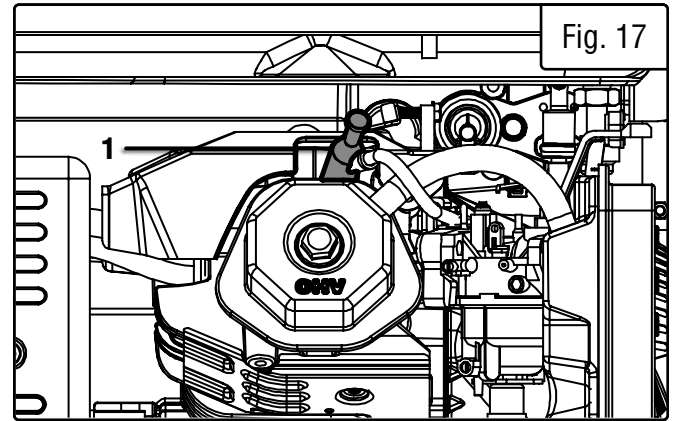

Fig. 17
1. Pull on the spark plug boot to remove it (Fig. 17). Be careful not to tear insulation or wire.